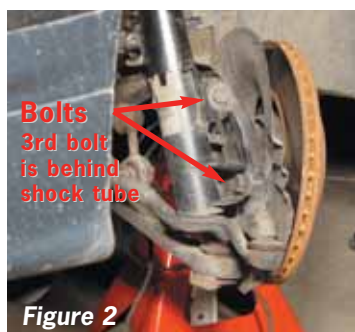

Figure 2
4. Work the Coverlay over the dash pad being careful to assure that it is fully into the forward edge of the dash at the base of the windshield (figure 2).
2. Prep the moldings for application of the clear-coat by brushing on the cleaning solution using the supplied foam brush (figure 2).
3 Loosen the 3 strut-to-spindle bolts (figure 2).